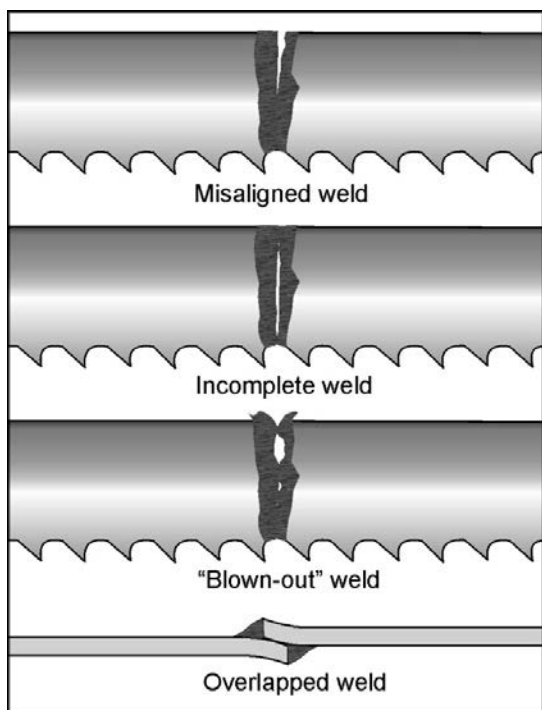

Figure 13-5
9. Release weld button (F) and wait 3 or 4 seconds until blade returns to original color. Unclamp blade.
10. Rotate pressure selector switch (E) back to "0".
11. Remove blade from welder jaws, and carefully inspect it. The spacing of the teeth should be uniform and the weld should be located in center of gullet. Misalignment is easily noted at this time from the weld appearance. See Figure 13-5 for examples of incorrect welds.